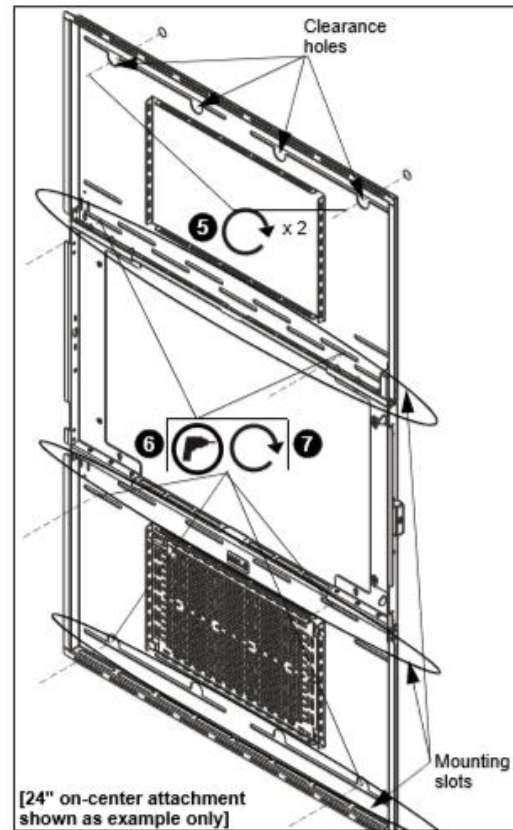

Figure 3
4. Hang wall bracket, aligning upper mounting slot clearance holes over fasteners and adjust side-to-side for proper location. (See Figure 3)
6. Drill six remaining pilot holes (see Table 1 for size) at attachment locations and follow fastener information (appropriate for wall type) located in Table 1. (See Figure 3)